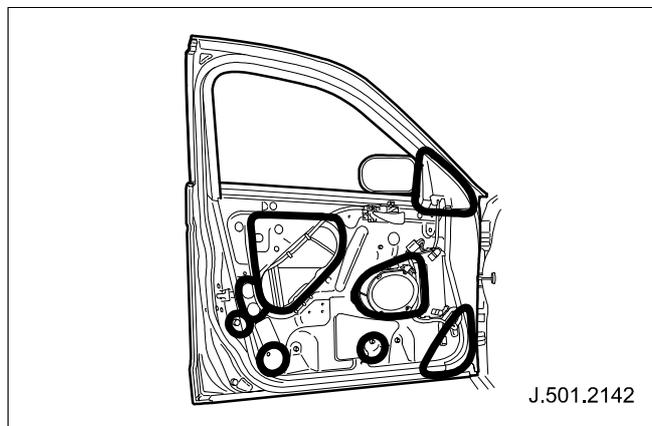

Fig. 1
- 1 The following illustrations depict possible water leak points around the front door area. (See Fig. 1)